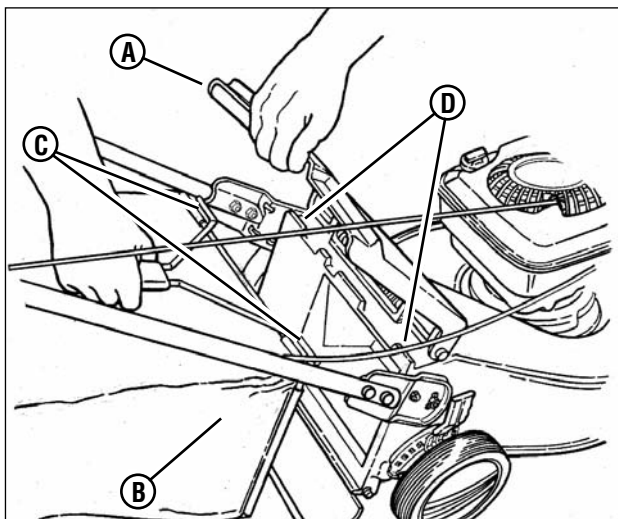

Figure 8: Installing the Grass Catcher
2. Lift the discharge door (**A**, **Figure 8**) located at the rear of the machine.